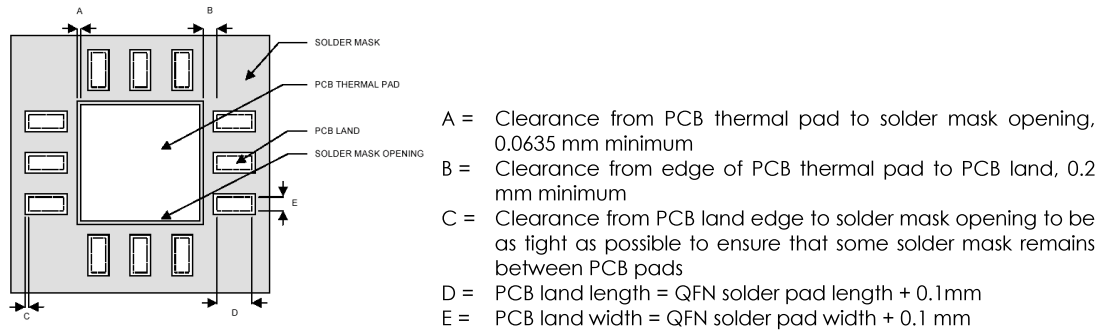

Figure 18: PCB land and solder mask recommendations
1. PCB land and solder masking recommendations are shown in Figure 18.